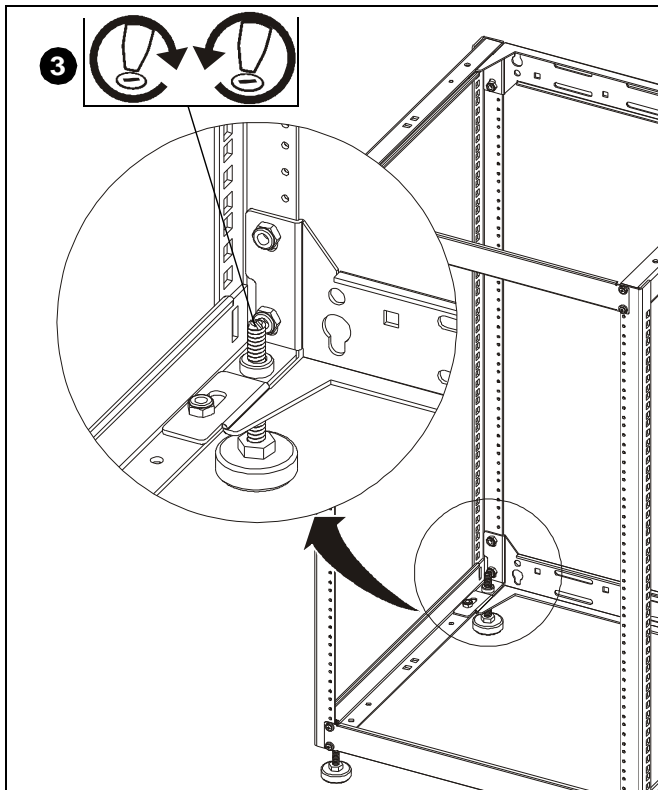

Figure 6
3. Use a flathead screwdriver to turn each screw until rack is completely level. (See Figure 6)